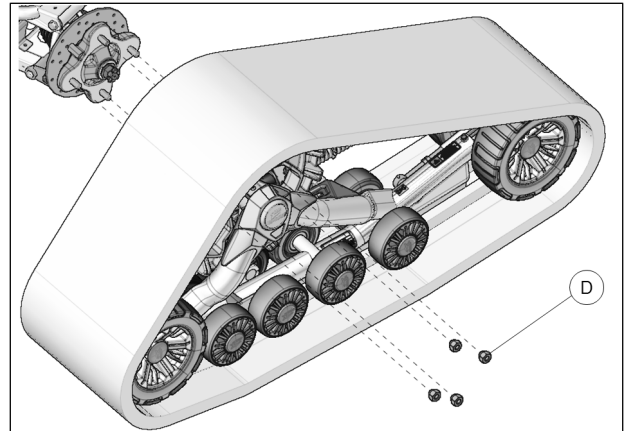

Fig. 8
- Secure undercarriage to rear hub using the provided lug nuts (D). See Fig. 8
6. Using the lug nuts (**D**) provided, secure undercarriages to front wheel hubs. The procedure and precautions are the same as for rear units. Refer to Fig. 8